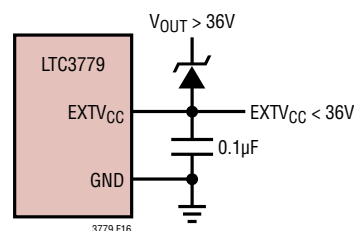

Figure 16. Using a Zener Diode Between V_{OUT} and EXT_{V_{CC}}
4. EXT_{V_{CC}} connected to the regulator output through an external Zener diode. If the output voltage is greater than 36V, a Zener diode can be used to drop the necessary voltage between V_{OUT} and EXT_{V_{CC}} such that EXT_{V_{CC}} remains below 36V (Figure 16). In this configuration, a bypass capacitor on EXT_{V_{CC}} of at least 0.1μF is recommended. An optional resistor between EXT_{V_{CC}} and GND can be inserted to ensure adequate bias current through the Zener diode.